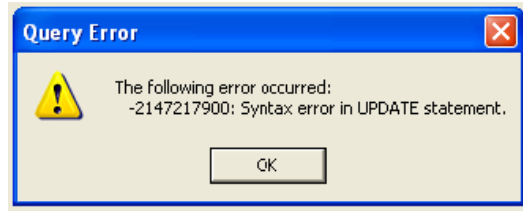

Figure 29: Query error message
- A "Query Error" message appears if the operation is unsuccessful (see example in Figure 29).